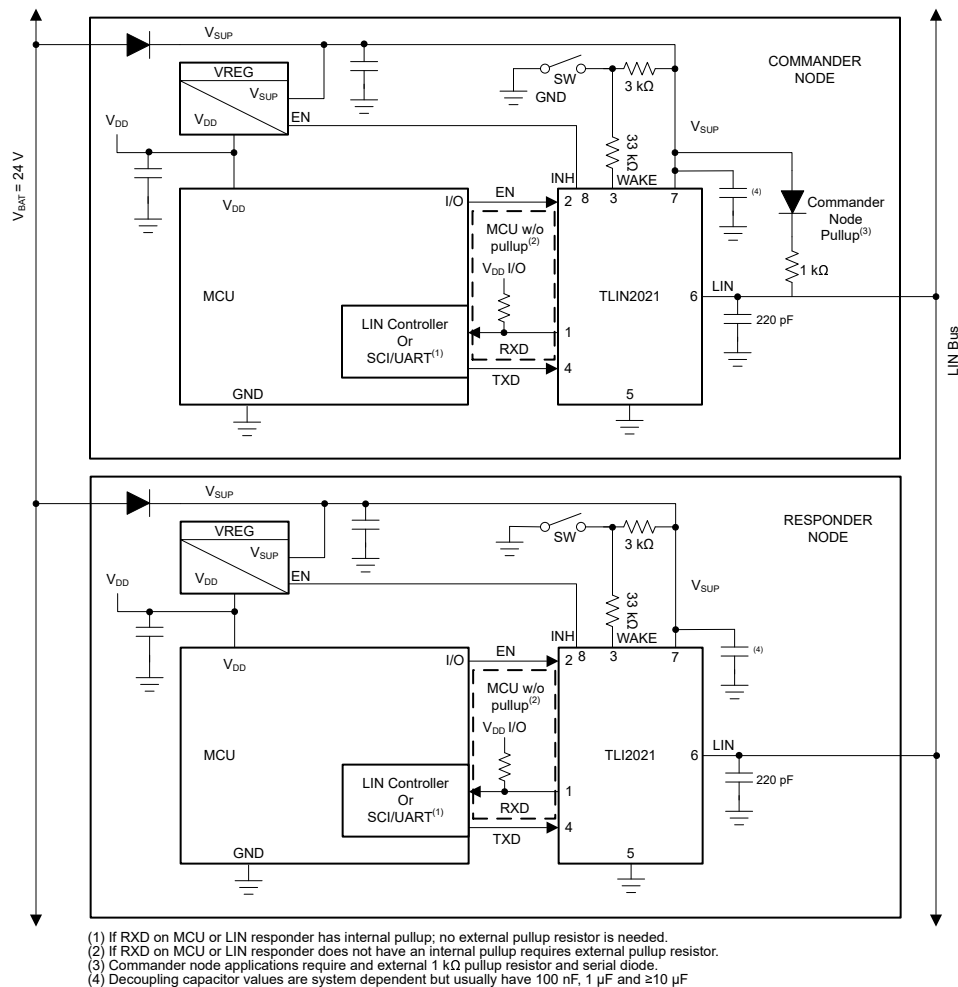

图 10-1. Typical LIN Bus
The device integrates a 45 k Ω pull-up resistor and series diode for responder applications. For commander applications, an external 1 k Ω pull-up resistor with series blocking diode can be used. Figure 10-1 shows the device being used in both commander and responder applications.
- Pin 2 (EN):** EN is an input pin that is used to place the device in low-power sleep mode. If this feature is not used the pin should be connected to the supply voltage for the controller through a series resistor using a
- **Pin 6 (LIN):** The LIN pin connects to the TLIN2021-Q1 to the LIN bus. For responder applications a 220 pF capacitor to ground is implemented. For commander applications an additional series resistor and blocking diode should be placed between the LIN pin and the V_{SUP} pin, see Figure 10-1.